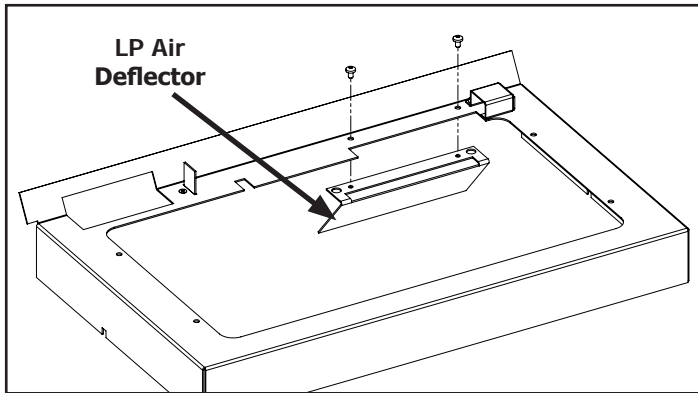

Figure 20. LP Air Deflector Installation
8. **LP Conversions Only:** Install the supplied steel air deflector onto the burner tray as shown below (Figure 20) using a T20 screwdriver.